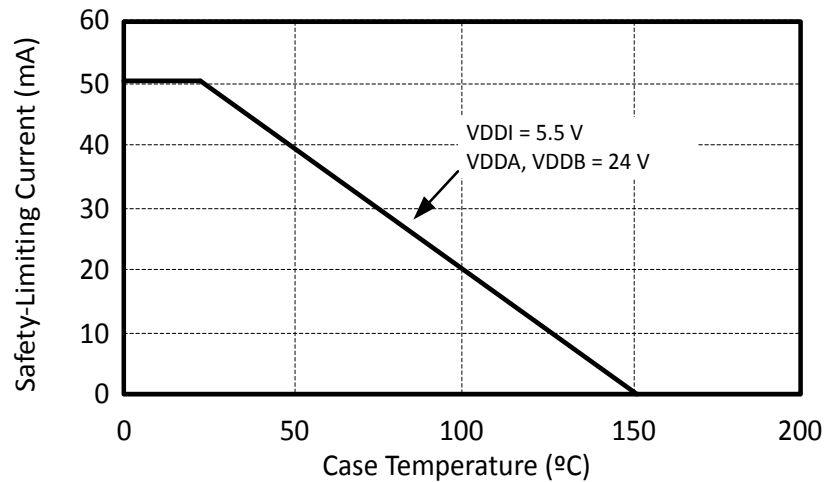

Figure 4.4. WB SOIC, NB SOIC, 14 LD LGA/QFN Thermal Derating Curve, Dependence of Safety Limiting Values with Case Temperature per VDE 0884-10
1. Maximum value allowed in the event of a failure. Refer to the thermal derating curve in Figures [Figure 4.4 WB SOIC, NB SOIC, 14 LD LGA/QFN Thermal Derating Curve, Dependence of Safety Limiting Values with Case Temperature per VDE 0884-10 on page 32](#).